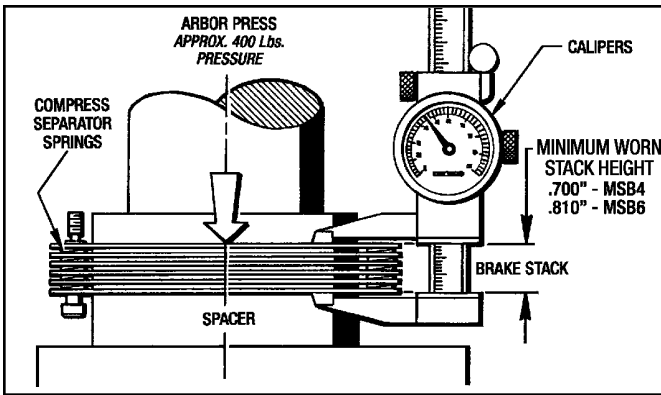

Figure 7.2 - Measuring Stack Height - MSB4 & MSB6
The Stack Height must be measured to determine whether or not the Brake Stack needs to be replaced. If it measures under the Minimum Worn Stack Height then the Brake Stack needs to be replaced. (See *Figure 7.2* on next page.)
6. Place the Brake Stack (#41) in an arbor press and measure the Stack Height to determine whether or not the Brake Stack (#41) needs replaced. (See Section 7-4 and Figure 7.2)